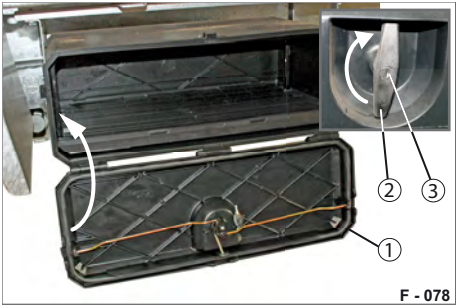

Fig. 104 Closing the toolbox
- Swing the lid (Fig. 104/1) up.
- Turn the handle (Fig. 104/2) clockwise.
- Lock with the key (Fig. 104/3).